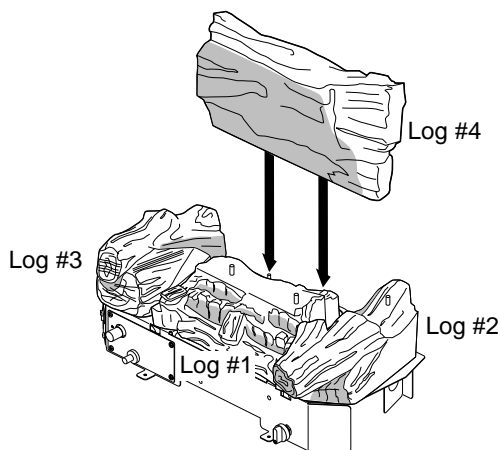

Figure 26 - Installing Log #4 (Model VRL30NR Shown)
4. Place log #4 onto two alignment screws to rear of base (see Figure 26).